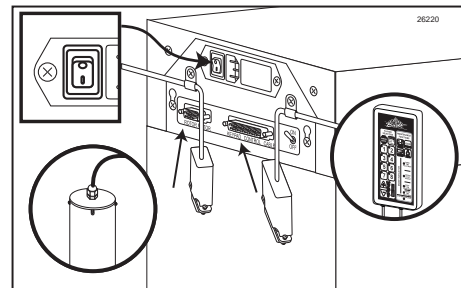

Figure 152
1. Ensure the power-switch is in the “off” position. Connect the Motor Cable and the Keypad Cable to the appropriate fitments on the Electronics Board located at the back of the cabinet. (See Figure 152.)